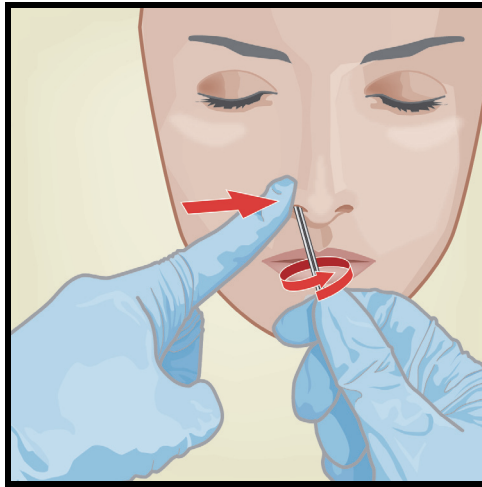

Figure 3. Nasal Swab Collection for Second Nostril
2. Repeat on the other nostril with the same swab, using external pressure on the outside of the other nostril (see Figure 3). To avoid specimen contamination, do not touch the swab tip to anything other than the inside of the nostril.